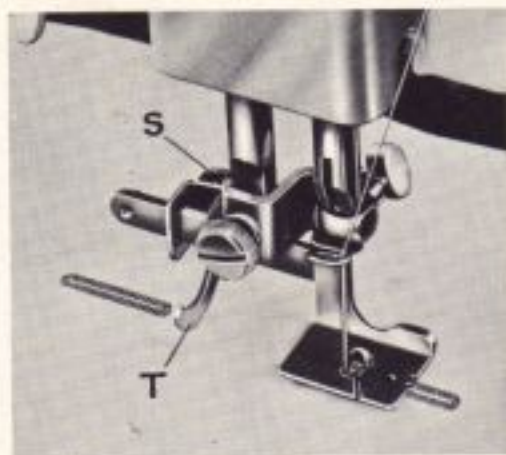

Fig. 32
1. Remove zig-zag stitch hinged foot and attach buttonhole foot to presser foot bar (see General Instruction No. 6) (see Fig. 32).
10. Loosen thumb screw "S" on buttonhole foot (Fig. 32) and move index "T" either forward or backward to set for desired length of buttonhole.